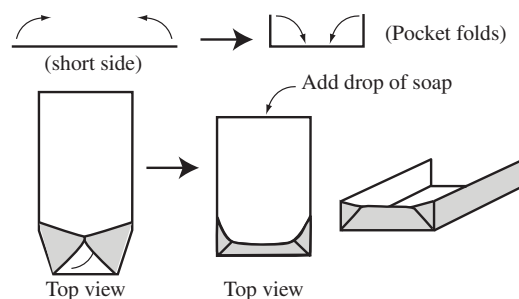

Figure 3.
1. Obtain the aluminum foil rectangle and bend it in the form of boat similar to Figure 3. *Note:* The back of the boat can remain open and it will not sink on the water. Any boat design will work.